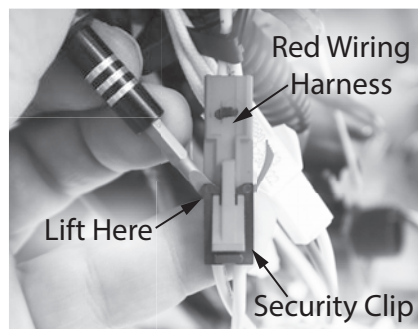

Figure 237 - Red wiring harness clip removal
- 18 Trace the yellow wires from the condensate trap to the red wiring harness and disconnect them. See Figure 237.
NOTICE: The harness uses a black security clip. Use a small flat blade screw driver to remove and keep this clip for reinstallation. See Figure 237.